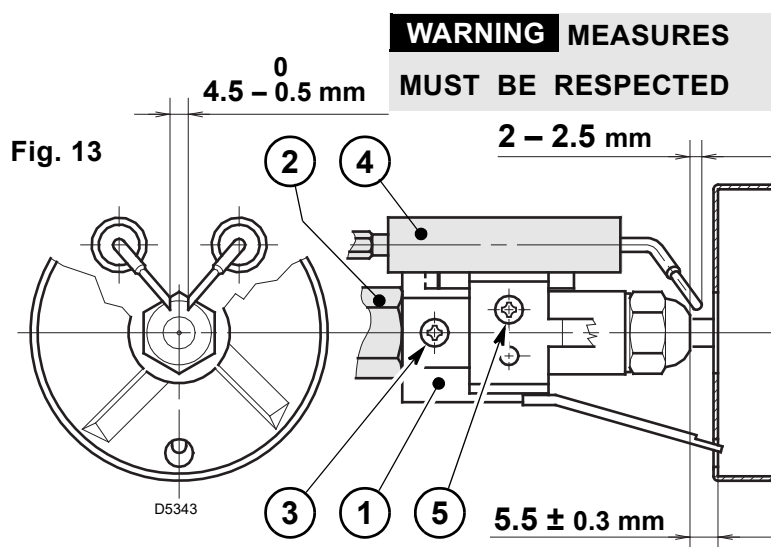

Fig. 13
- Hook the burner to the flange (1), by removing the blast tube (2) after loosening the fixing screws (3).
- Remove the small cables (4) from the electrodes and the diffuser disc-holder assembly (5) from the nozzle-holder assembly after loosening its fixing screw (3, Fig. 13, page 7).
- **Screw the nozzle (6) correctly and tighten it as shown in the figure.**
- Withdraw the small cables (4) from the electrodes, remove the diffuser disc-holder assembly (9) from the nozzle-holder assembly (1) after loosening screw (3, Fig. 13).
- **Screw the nozzle (10) correctly and tighten it as shown in figure.**
- In the sketch the combustion head is set for an output of 0.85 GPH at 15 bar. The set-point 3 of the regulating rod (8) is at the same level with the outside plane of the nozzle-holder assembly (1) as shown in the schedule;
4.2 ELECTRODES ADJUSTMENT (see Fig. 13)